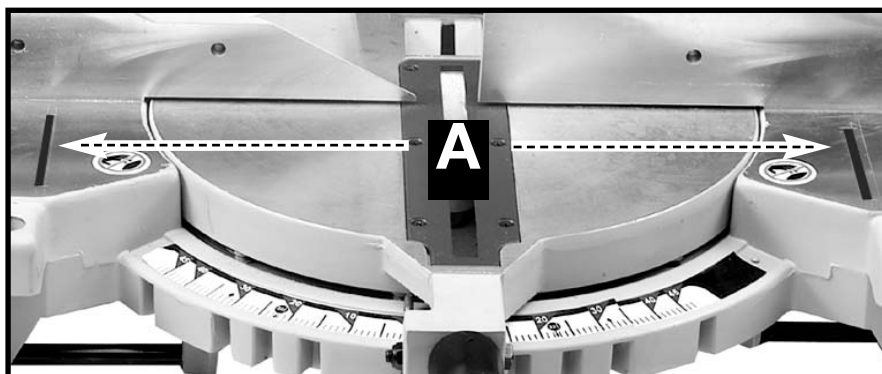

Fig. 8
**⚠ WARNING: THE AREA INSIDE THE TWO RED LINES (A) FIG. 8 ON THE TABLE IS DESIGNATED AS A HAZARD ZONE. NEVER PLACE YOUR HANDS INSIDE THIS AREA WHILE THE TOOL IS BEING OPERATED**